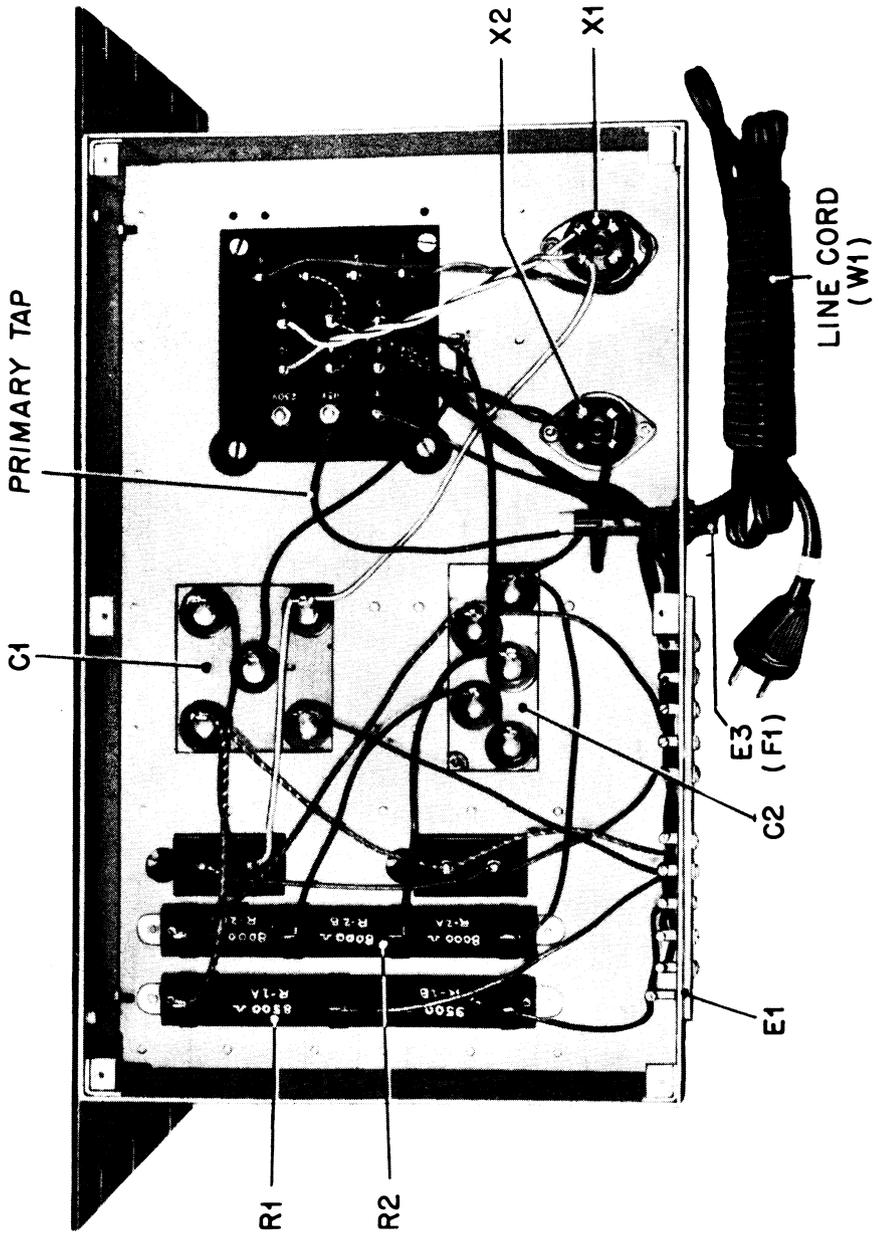

Figure 7. Power Supply Unit RA-94-A
e. Before plugging the power cord into the a-c power line, remove the bottom plate from the power supply unit to see that the primary tap is properly connected for the particular a-c voltage available. This primary tap connects the fuse-holder (E3) to one of the screw terminals on the power transformer, and is marked PRIMARY TAP in FIG. 7.
(1) Power Supply Unit RA-74-C has eight taps marked 95, 105, 117, 130, 190, 210, 234, and 260.